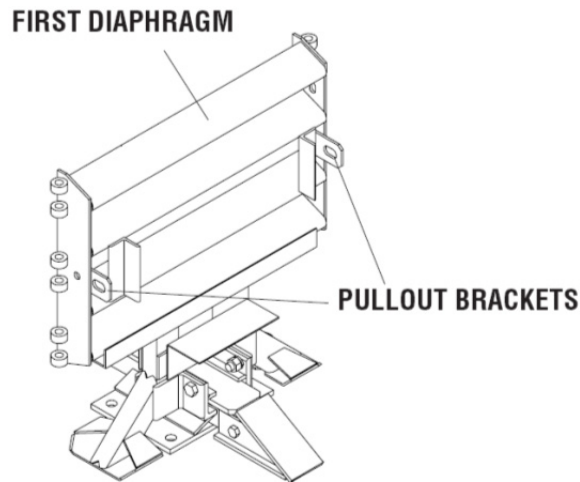

Figure 73
- 6) Attach chain to Pullout Brackets on first Diaphragm (see Figure 73). Attach both ends of chain to a heavy vehicle (such as a 1 ton pickup).